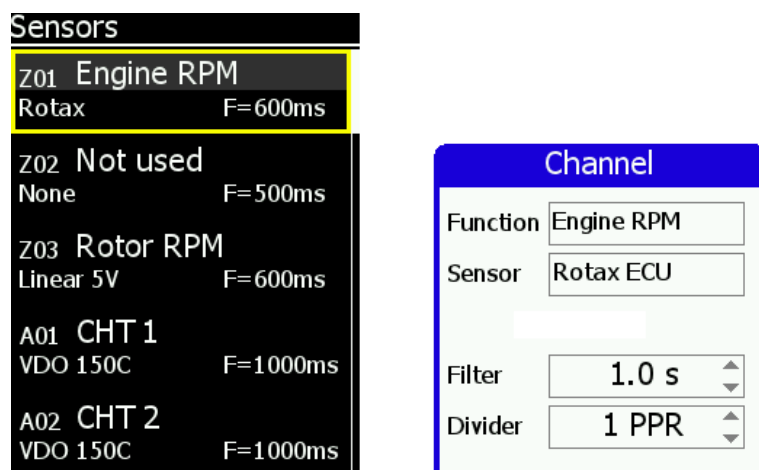

Figure 6: Emsis *Sensors* menu (left), Emsis *channel configuration* dialogue (right).
Emsis *Sensors* menu opens, see figure 6 (left). Configure sensors by repeating the following steps:
1. Select a channel to open configuration dialogue, see figure 6 (right).